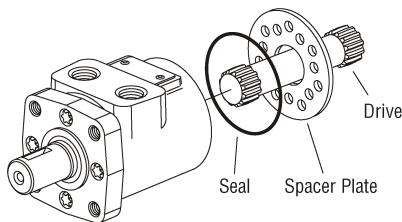

Figure 5-23, Drive
5. Remove the drive and the spacer plate. The seal in the housing can now be serviced. (Figure 5-23)